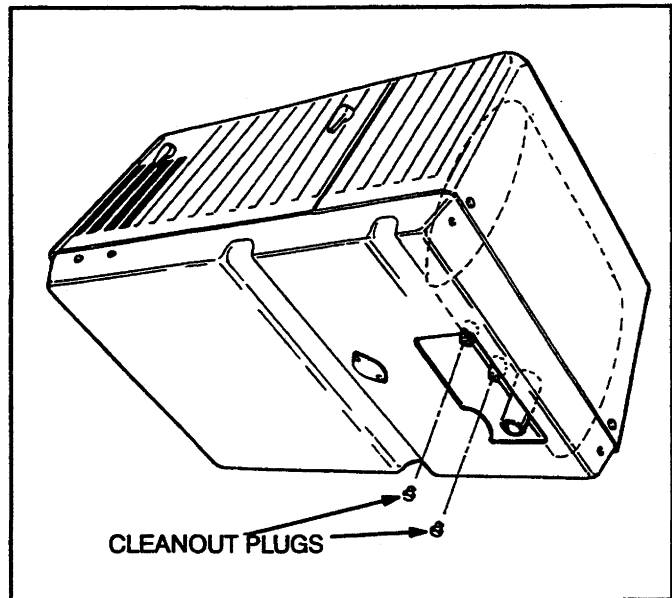

FIGURE 12. SPARK ARRESTOR CLEANOUT PLUGS
1. Remove the cleanout plugs from the bottom of the muffler (Figure 12).